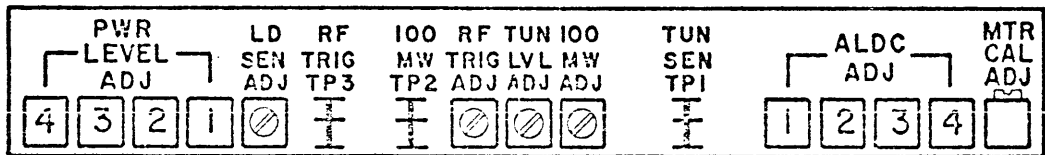

Figure 3-1
3-2. ALDC ADJUSTMENT PROCEDURE (Refer to figure 3-1 for control location)
3-5. AUTO TUNING ADJUSTMENT PROCEDURE (Refer to figure 3-1 for control location)
- (1) Connect transmitter to dummy load.
- (2) Energize transmitter (MAIN POWER, SCREEN AND PLATE BREAKERS to ON). H.V. switch pressed to ON.
- (3) Place MANUAL/AUTO switch to MANUAL. POWER LEVEL switch to position 4. Turn LOAD SENSE adjust fully clockwise (LOAD SENSE ADJ located in servo control drawer).
- (4) At 12 MHz operate TUNE and LOAD control to produce the maximum PA OUTPUT with the least amount of PA Plate Current.
- (5) Increase RF DRIVE until PA OUTPUT meter indicates rated output. (Note setting of LOAD capacitor)
- (6) Reduce PA OUTPUT until PLATE current meter indicates 320-360 ma.
- (7) Slide AX5130 unit out on its chassis slides to expose LOAD SENSE adjustment control. (Refer to figure 3-1 for control location.) Adjust LOAD SENSE control until voltage on PC607 TP-1 and TP-2 are equal.
- (8) Place MANUAL/AUTO switch in AUTO press TUNE button twice.